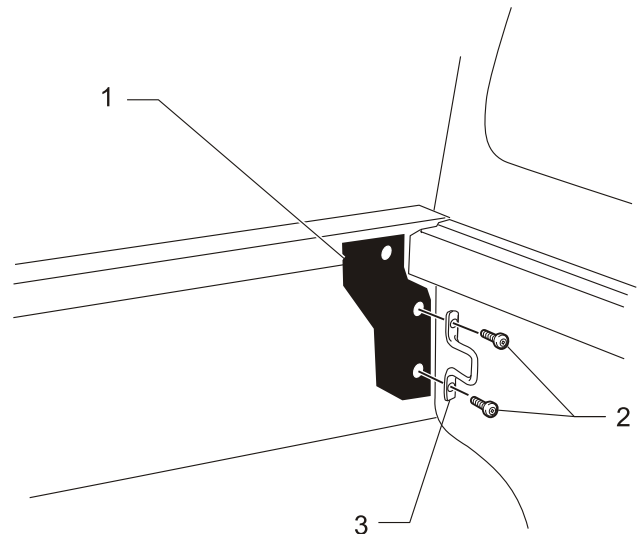

Figure 2
2. Position the blackout decals (1) to each side of the tub over the area where the header bar was attached. Ensure the area is clean and dry before fitting.
3. Refit the 4 torx bit bolts (2) that retain the 2 tie down points (3) once the header bar has been removed. Refer to figure 2.